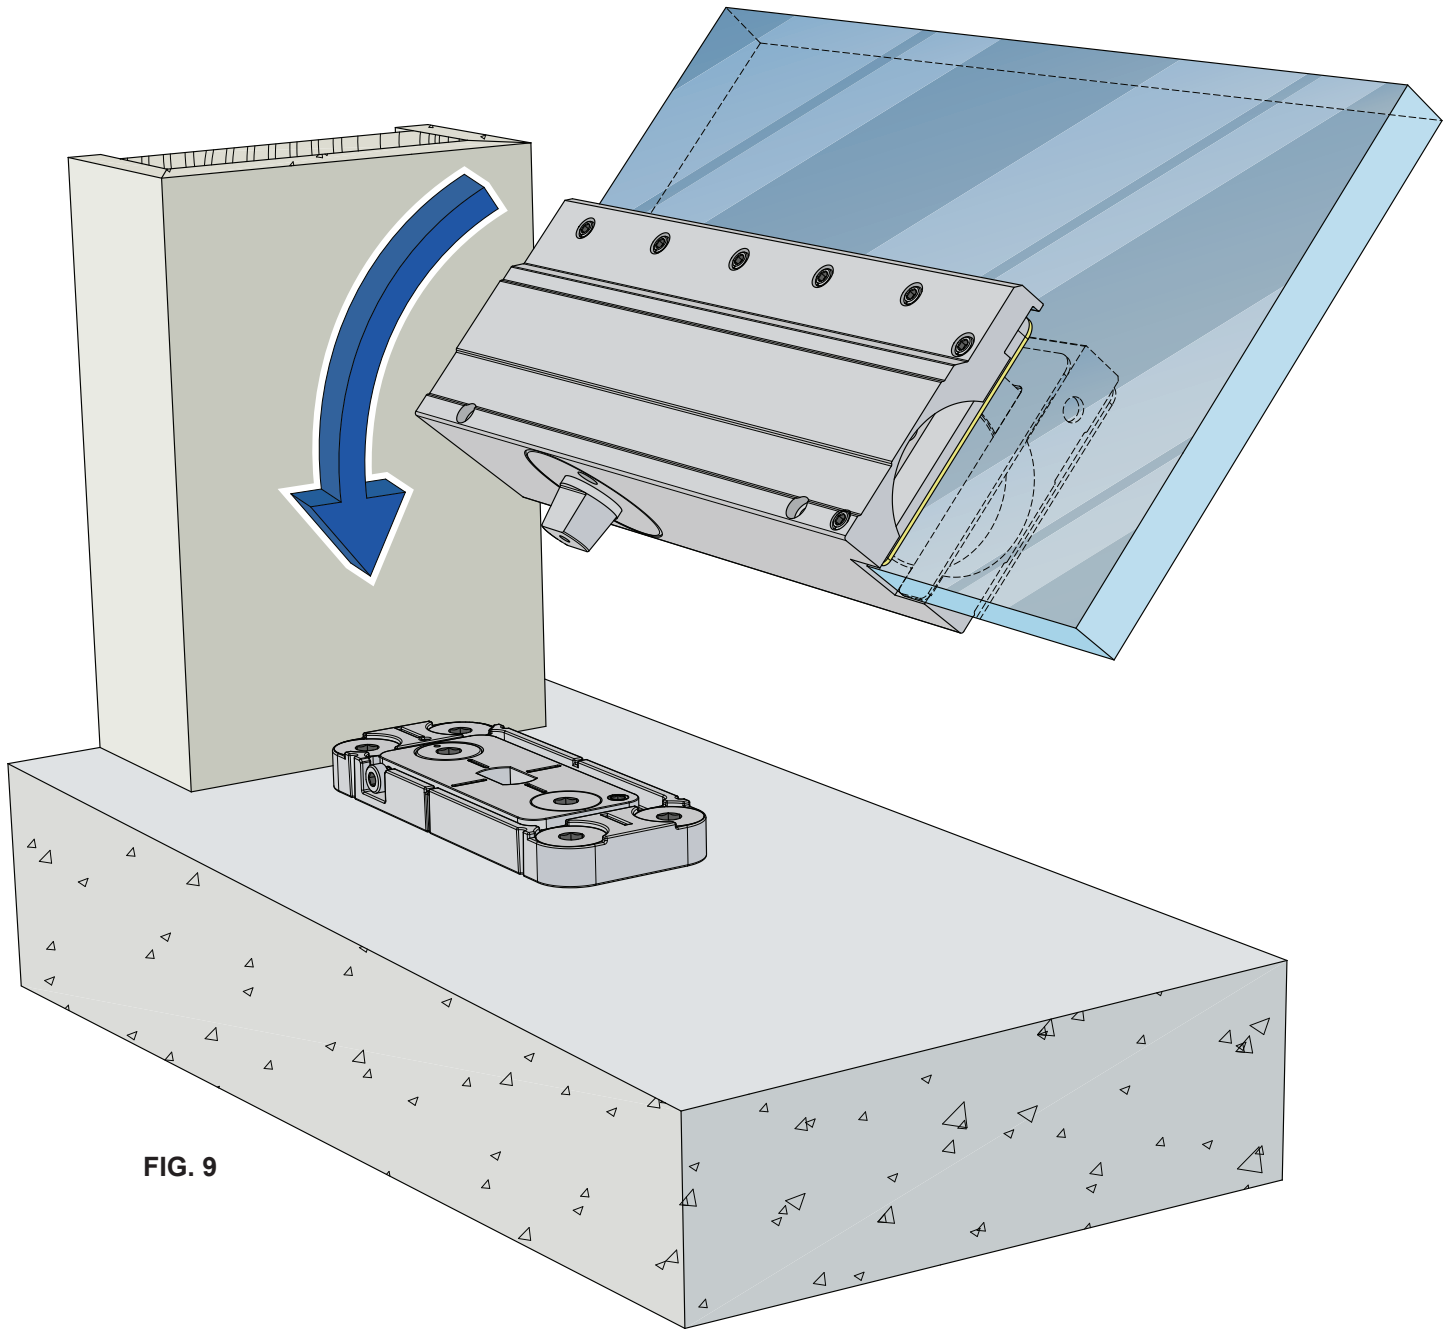

FIG. 9
7. Insert the door into the Hinge Base Plate. (Fig. 9)